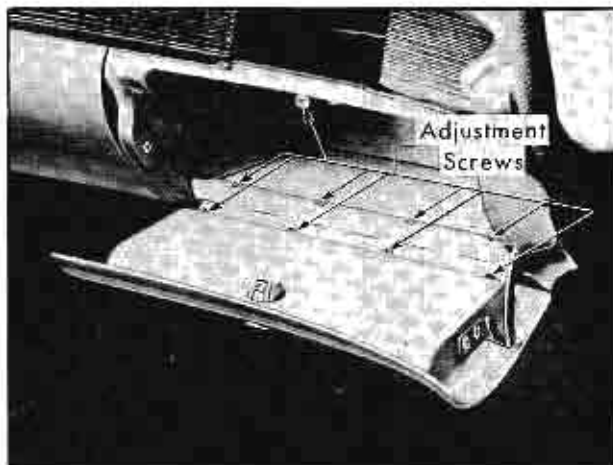

Fig. 3-3 Glove Box Door Adjustment
2. The screw holes in the instrument panel side of the hinge are elongated and oversized, permitting in and out adjustment at the bottom of the door plus lateral adjustment when attaching screws are loosened. Fig. 3-3.